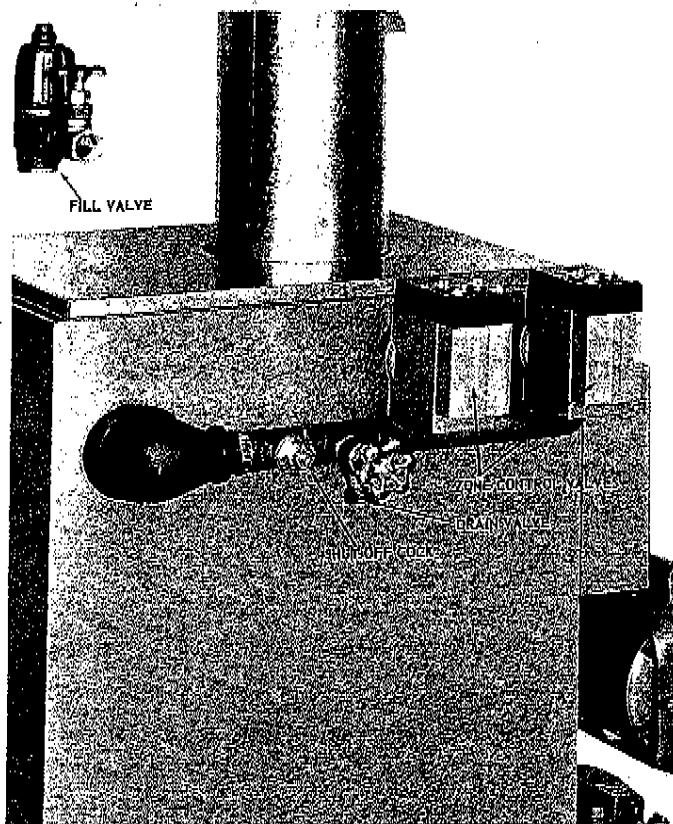

Figure 3 – Zone Valve Installation on the Model 234 Boiler, Sizes 5, 6 and 7
1. Assemble the 2 x 2-1/2 inch nipple and 2 x 1 inch elbow in the left rear top supply tapping, see Figure 3.